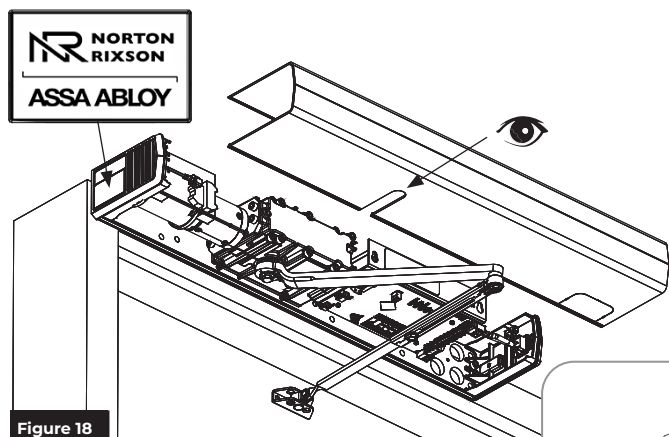

Figure 18
2. Align the cut-outs in the cover to pinion shafts. (Figure 18)
6. Attach a label plate to each end cap by snapping it into place by hand with gentle pressure. (Figure 18)